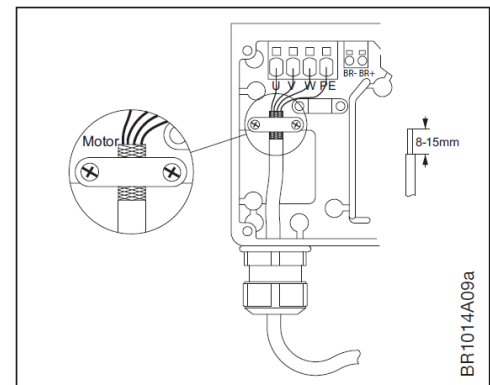

Fig. 3-11: Connection of cable shield
- Shielded motor cable shall always be used. Shielding shall be connected to the housing with the clamp intended for that purpose (see fig. 3-11).